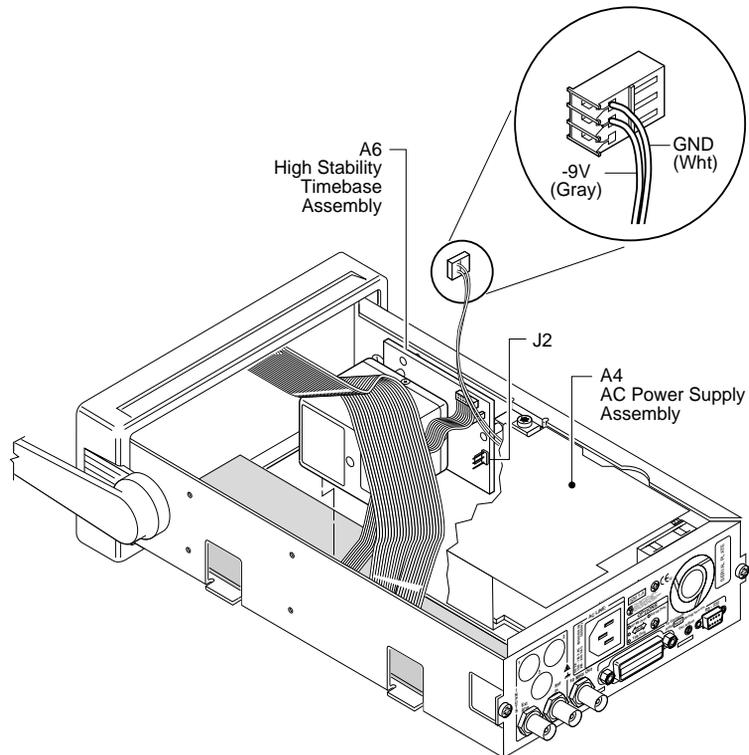

Figure 2-10. A4 AC Power Supply -9V Output Check (Option 010/012 Only)
- a. Disconnect the power supply's two-wire cable from J2 of A6 High Stability Timebase Assembly as shown in Figure 2-10.**
- b. Connect the negative lead of a voltmeter to the white wire connection (GND) on the connector of the two-wire cable, and connect the positive lead to the gray wire connection (-9V) as shown in Figure 2-10.**